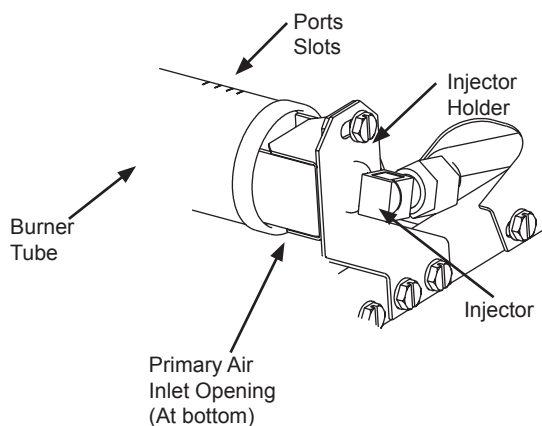

Figure 26 - Injector Holder On Outlet Burner Tube
2. Inspect burner, pilot, and primary air inlet opening on injector holder for dust and dirt (see Figure 26).